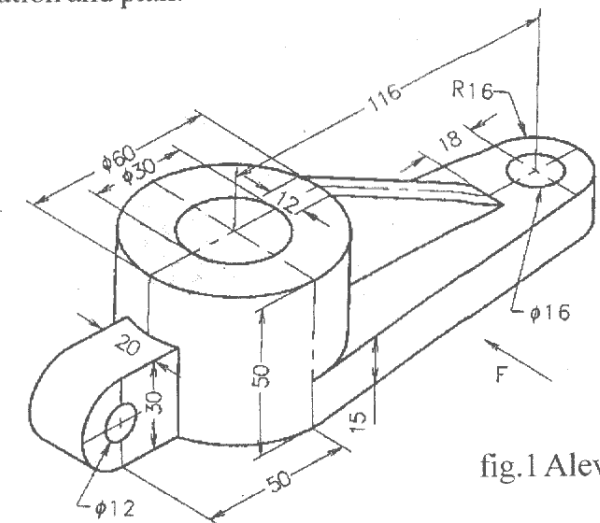

fig.1 Alever
1. Isometric view of a lever is shown in fig.1. Draw sectional elevation and plan.